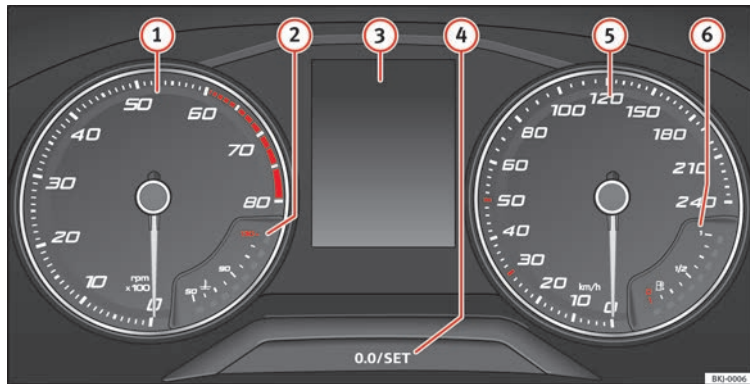

Fig. 124 Instrument panel, on dash panel.
A variety of information can be viewed on the instrument panel display » **Fig. 124** **③** depending on the vehicle equipment:
- Bonnet, rear lid and doors open » **Fig. 124** **③** page 38.
- Recommended gear (manual gearbox) » **Fig. 124** **③** page 39.
- Multifunction display (MFD) and menus with different setting options » **Fig. 124** **③** page 35.
- Service interval display » **Fig. 124** **③** page 41.
- Second speed display » **Fig. 124** **③** page 35.
- Speed warning function » **Fig. 124** **③** page 40.
- Briefly press the button » **Fig. 124** **④** to re-set the trip recorder to 0.
- Keep the button **④** pressed for about 3 seconds and the previous value will be displayed.
- To set the time, keep the button » **Fig. 124** **④** pressed for more than 3 seconds to select the hour or minute display.
- To continue setting the time, press button **④**. Hold button down to scroll through the numbers quickly.
- Press the button **④** again in order to finish setting the time.
The recommended gear in order to save fuel is displayed on the instrument panel while you are driving » **Fig. 124** **③** page 39.
The coolant temperature gauge  » **Fig. 124** only works when the ignition is switched on. In order to avoid engine damage, please read the following notes for the different temperature ranges.